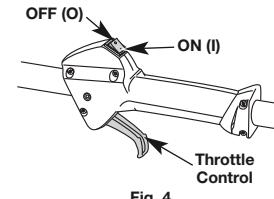

Fig. 4
NOTE: There is no need to turn the unit on. The On/Off Control is in the ON (I) position at all times (Fig. 4).
- Press and hold the On/Off Control switch in the **OFF (O)** position until the unit comes to a complete stop (Fig. 4).